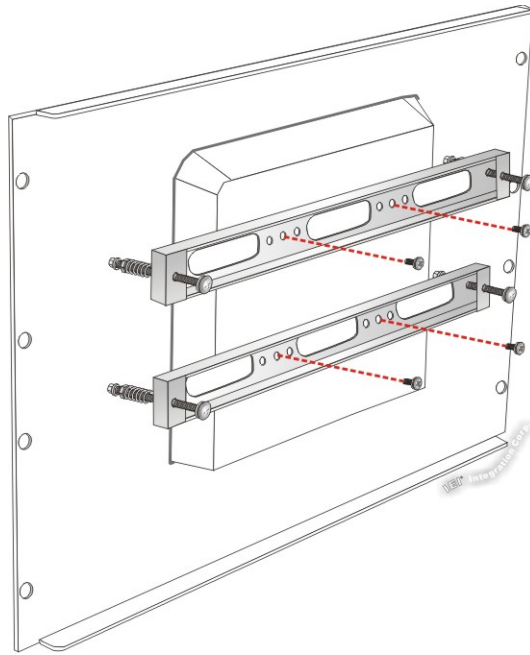

Figure 3-24: Securing Rack Mounting Brackets
- Step 5:** Secure the two rack mounting brackets to the rear of the panel PC by inserting the four retention screws into the VESA mounting holes and tightening them (Figure 3-24).